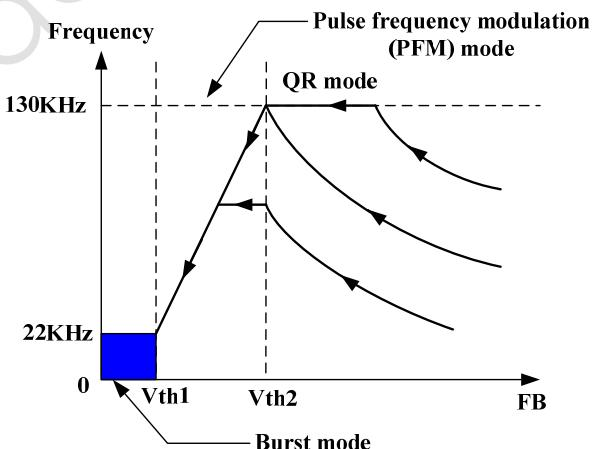

Figure 1
■ Under normal operating conditions ( $FB > V_{th2}$ , Figure 1), the system operates in QR mode. The frequency varies depending on the line voltage and the load conditions. Therefore, the system may actually work in DCM when 130KHz frequency clamping is reached. System design should be optimized such that the operation frequency is within the range specified at full load conditions and in universal AC line input range.
■ At light load condition ( $V_{th1} < VFB < V_{th2}$ , Figure 1), the system operates in PFM (pulse frequency modulation) mode for high power conversion efficiency. In PFM mode, the “ON” time in a switching cycle is fixed and the system modulates the frequency according to the load conditions. Generally, in flyback converter, the decreasing of load results in voltage level decreasing at FB pin. The controller monitors the voltage level at FB and